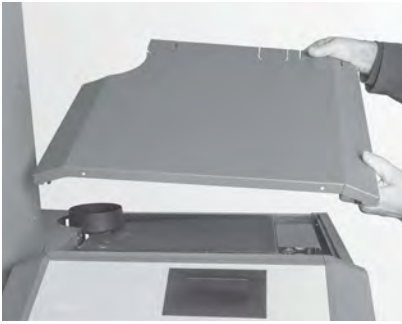

Fig. 114 Remove the cladding cover
- ▶ Remove the cladding cover – Fig. 114.